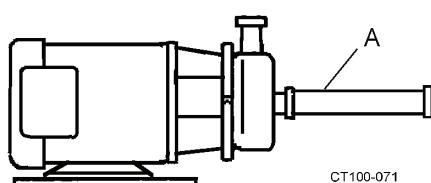

Figure 14 - Straight Pipe Length
4. Maintain a straight length of pipe (Figure 14, item A) at least 8 diameters long at the pump inlet.